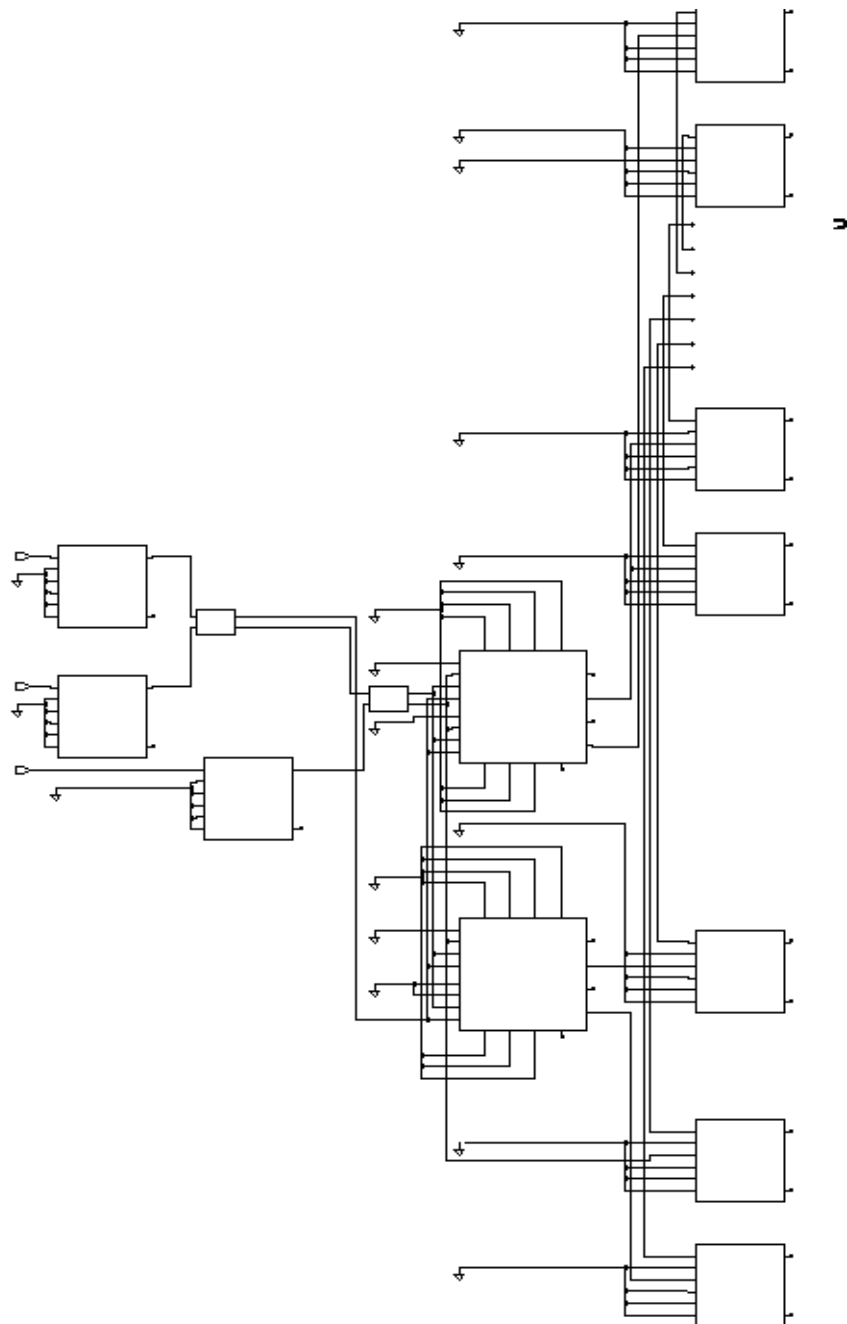
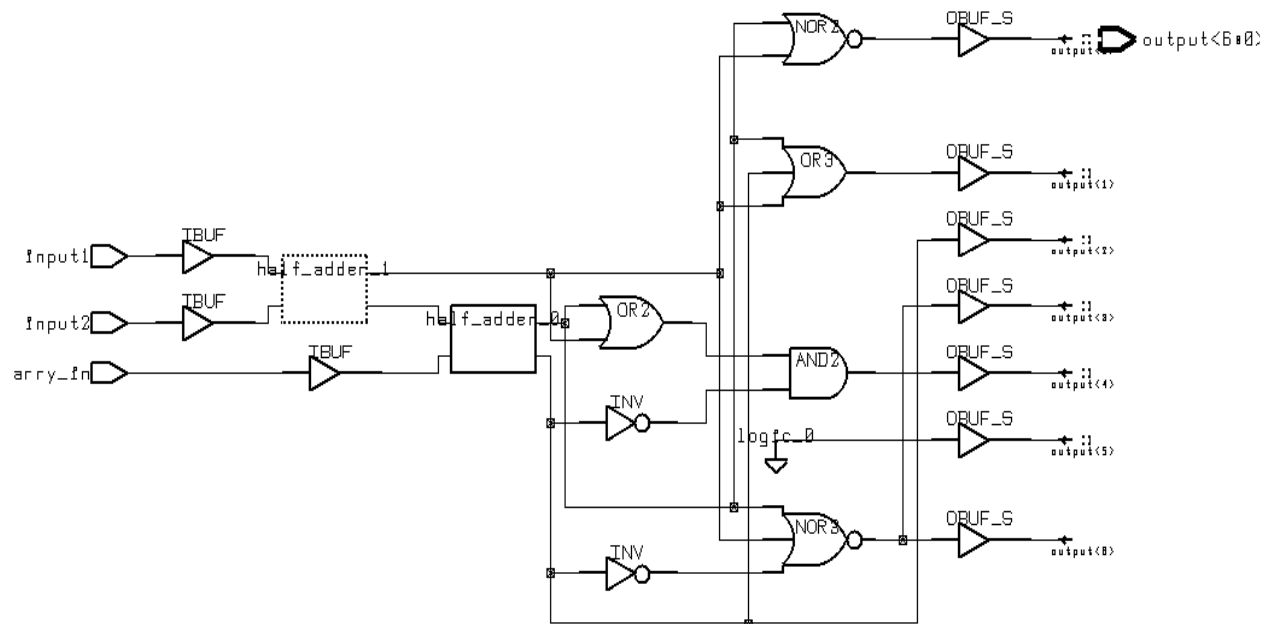

Figure 21: Full\_adder schematic in terms of Xilinx blocks.
Figure 22: Full adder schematic after replacing FPGA cells with gates.
(5) Descend down into the hierarchy of the `half_adder_0` component by selecting it and using the down arrow button. Notice how this component is implemented in a single Xilinx CLB. The `half_adder_1` component is similarly implemented.
(6) Return to the top-level (use the up arrow button) and descend down into the `full_adder` hierarchy. Notice how it consists of IOBs, CLBs, and two `half_adder` components. See Figure 21.
(7) Use the Design Analyzer to examine the full\_adder.db synthesized design. This is the result of synthesis after FPGA cells have been replaced with gates from the technology library. Select File -> Read -> Synthesized/full\_adder.db and descend down the hierarchy of this design. Traverse down the the gate level schematic (see Figure 22). Notice how each of the IOB in Figure 21 have been replaced with either an IBUF or an OBUF\_S. Notice also that the two half adders
are represented by yellow squares. You can descend down into the hierarchy of either `half_adder` by selecting it (it's outline will change from a solid line to a dashed line) and selecting the down arrow button of the Design Analyzer. Notice how the gate-level schematic of each half adder does not have inverted outputs. Finally, we can see that the two CLBs in the middle of Figure 21 have been replaced with a combinational logic network.